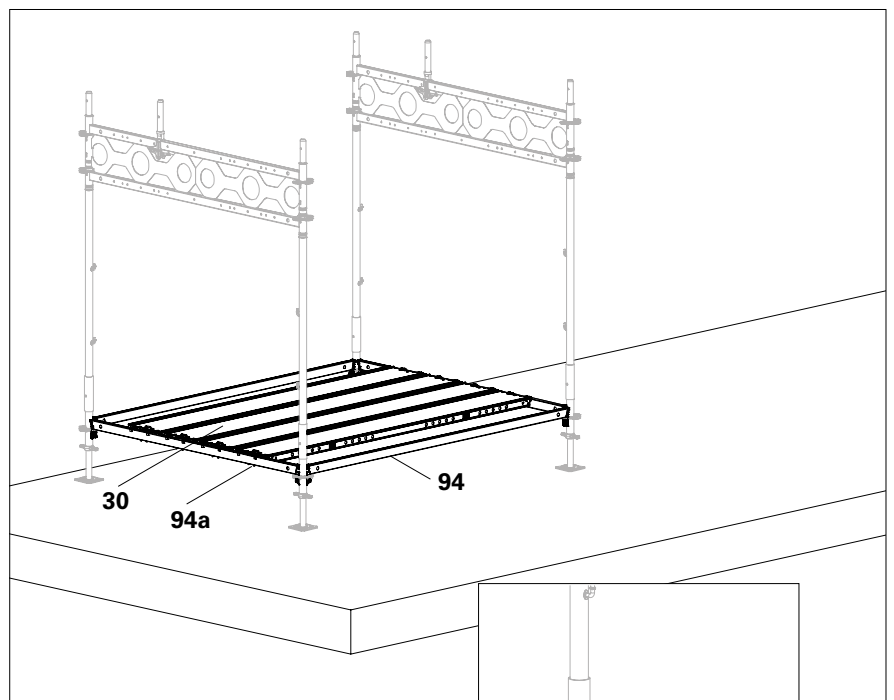

Fig. D6.04
1. Set up frame columns and connect them to the base standard using Horizontal Ledgers UH-2 (94).
3. Fit Horizontal Ledger UH-2 (94a) as an assembly aid on the base level and attach the decks (30). (Fig. D6.04)